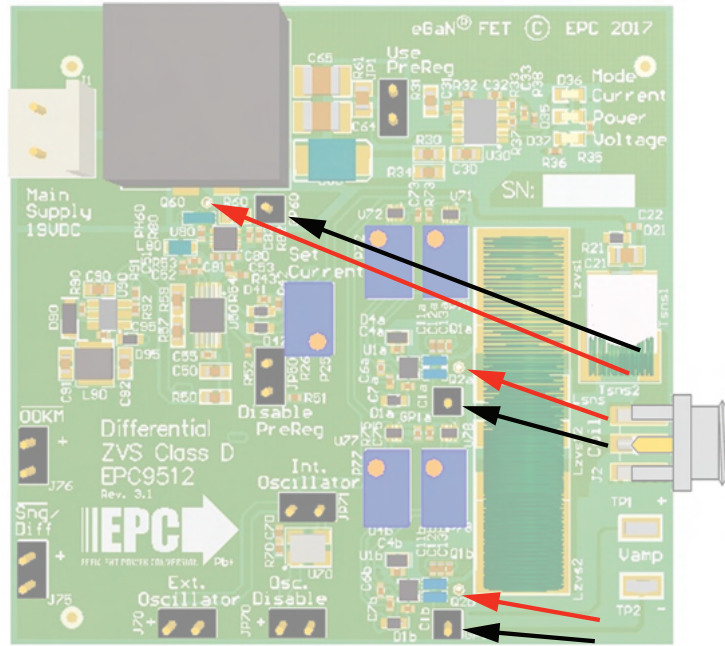

Figure 6: Measurement locations of switch node waveforms.
1. When measuring the high frequency content switch-node (Source Coil Voltage), care must be taken to avoid long ground leads. An oscilloscope probe connection (preferred method) has been built into the board to simplify the measurement of the Source Coil Voltage (shown in figure 6).